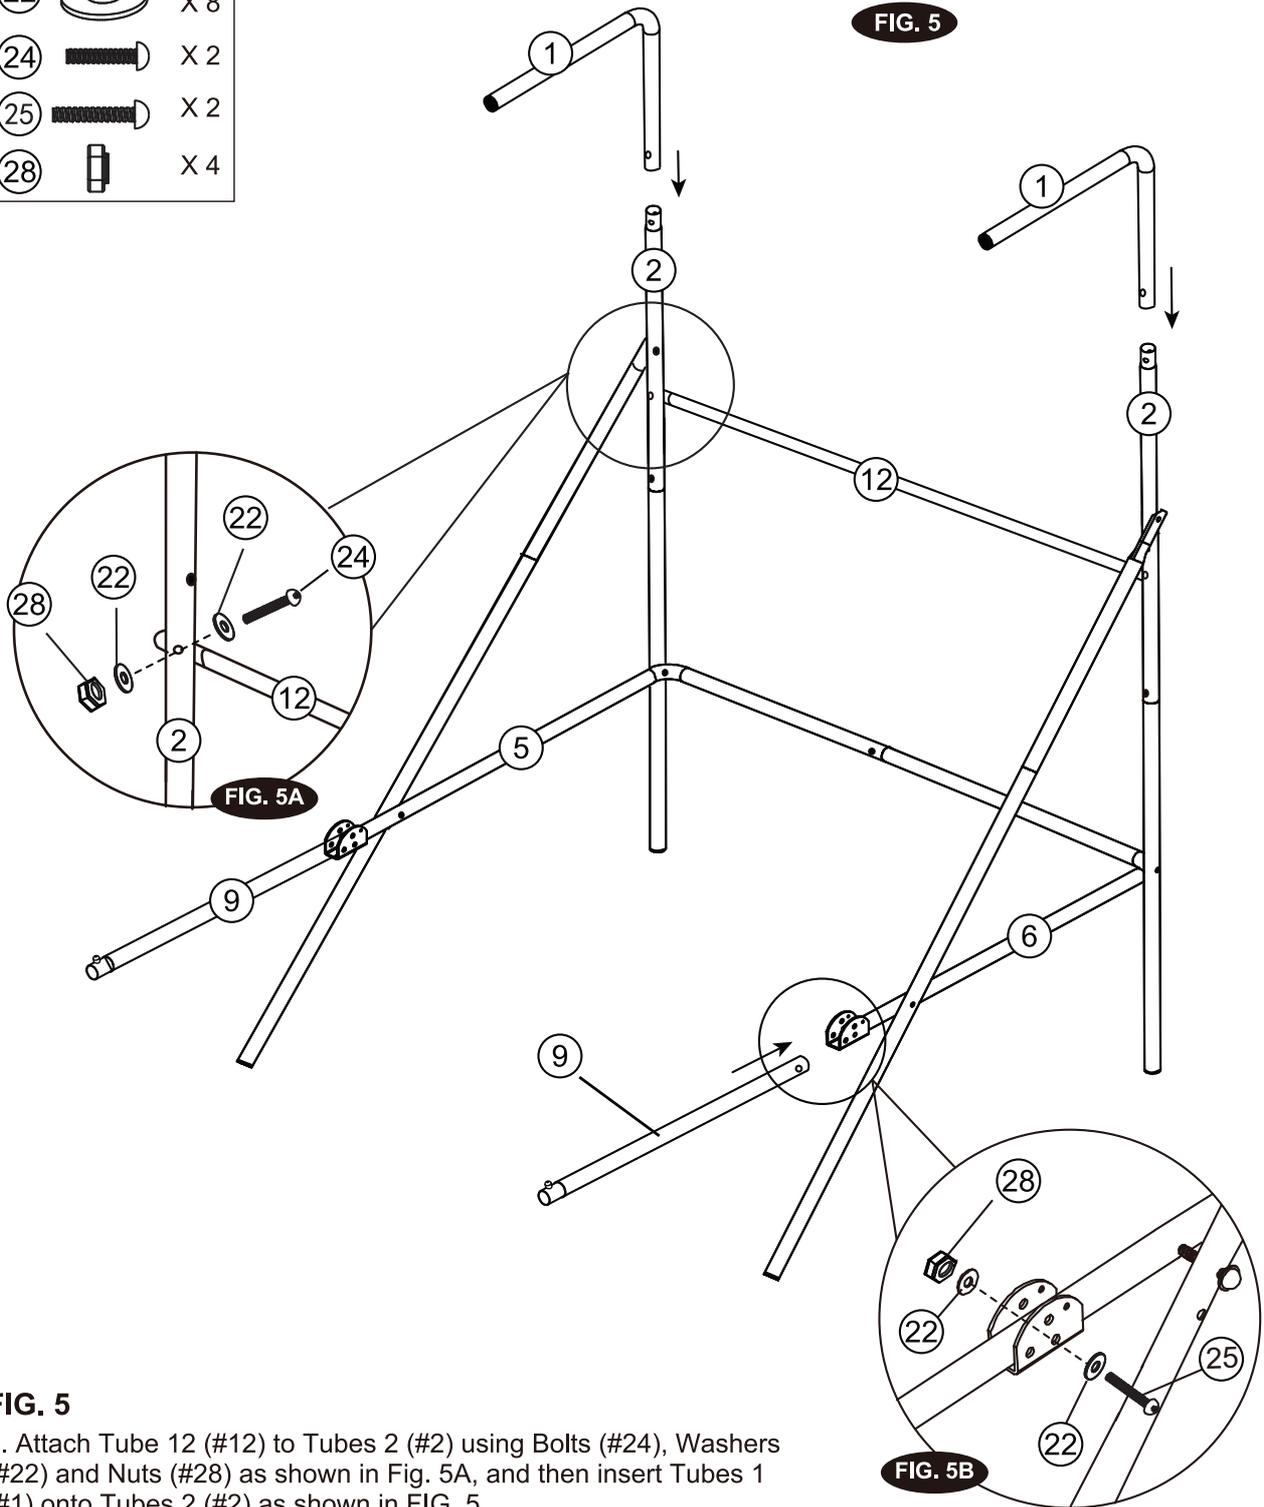

FIG. 5
8. Attach Tube 12 (#12) to Tubes 2 (#2) using Bolts (#24), Washers (#22) and Nuts (#28) as shown in Fig. 5A, and then insert Tubes 1 (#1) onto Tubes 2 (#2) as shown in FIG. 5.
9. Attach Tubes 9 (#9) to Tube 5 and Tube 6 (#5 & #6) using Bolt (#25), Washers (#22) and Nuts (#28) as shown in FIG. 5 and 5B